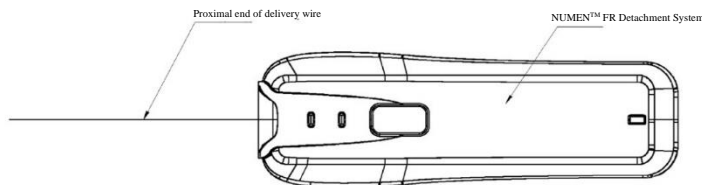

Figure 7. Connection between the delivery wire and NUMEN™ FR Detachment System
- When the "Ready" indicator light is on, press the detachment button to detach the coil (Figure 7).